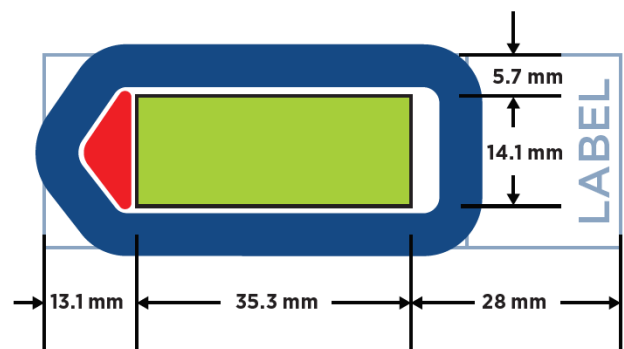

Figure 70: Slide dimensions
- Tissue sections must be placed in the **Scan Area** (shown in green) (see Figure 70) in the center of the slide and be **no larger than 35.3 mm long by 14.1 mm wide**. They should not overlap the slide gasket (shown in blue) or the Tip Calibration area (shown in red). Tissues that will be prepared using the BOND RX/RX^m must also fit within the white dots on the Apex BOND slides. If mounting multiple sections per slide, ensure that tissues are at least 2–3 mm apart and still fit within the Scan Area.